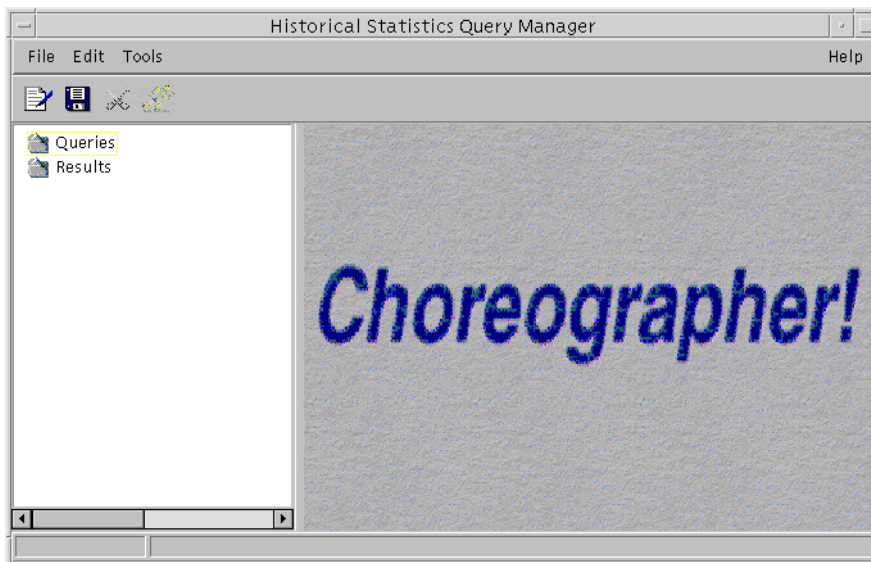

Figure 7-3: Historical Statistics Query Manager
The query manager allows you to select and view specific statistics in chart, bar, or table format (see Figure 7-3). The results can be saved to disk and viewed later. You can also save queries to disk and rerun them at any time if the statistics used to generate the results have not been deleted.
The Historical Statistics Query Manager appears (see Figure 7-3). This screen contains a list of saved queries and results.
3. From the Historical Statistics Query Manager (see Figure 7-3), access the network element manager by selecting **Tools>Network Element Manager**.